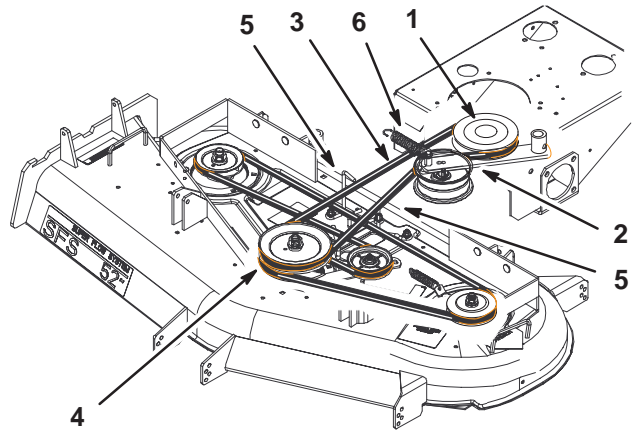

Figure 63
- Remove the idler spring from idler arm. Remove the drive belt from the PTO engagement pulley and the center spindle pulley (Fig. 63).
- Remove the worn drive belt (Fig. 63).
- Install the new drive belt onto the PTO engagement pulley and the top groove of the center spindle pulley (Fig. 63).
- Install belt onto idler pulley and then install idler spring (Fig. 63).
- Adjust PTO drive belt guides an 1/8 in. from belt (Fig. 63).